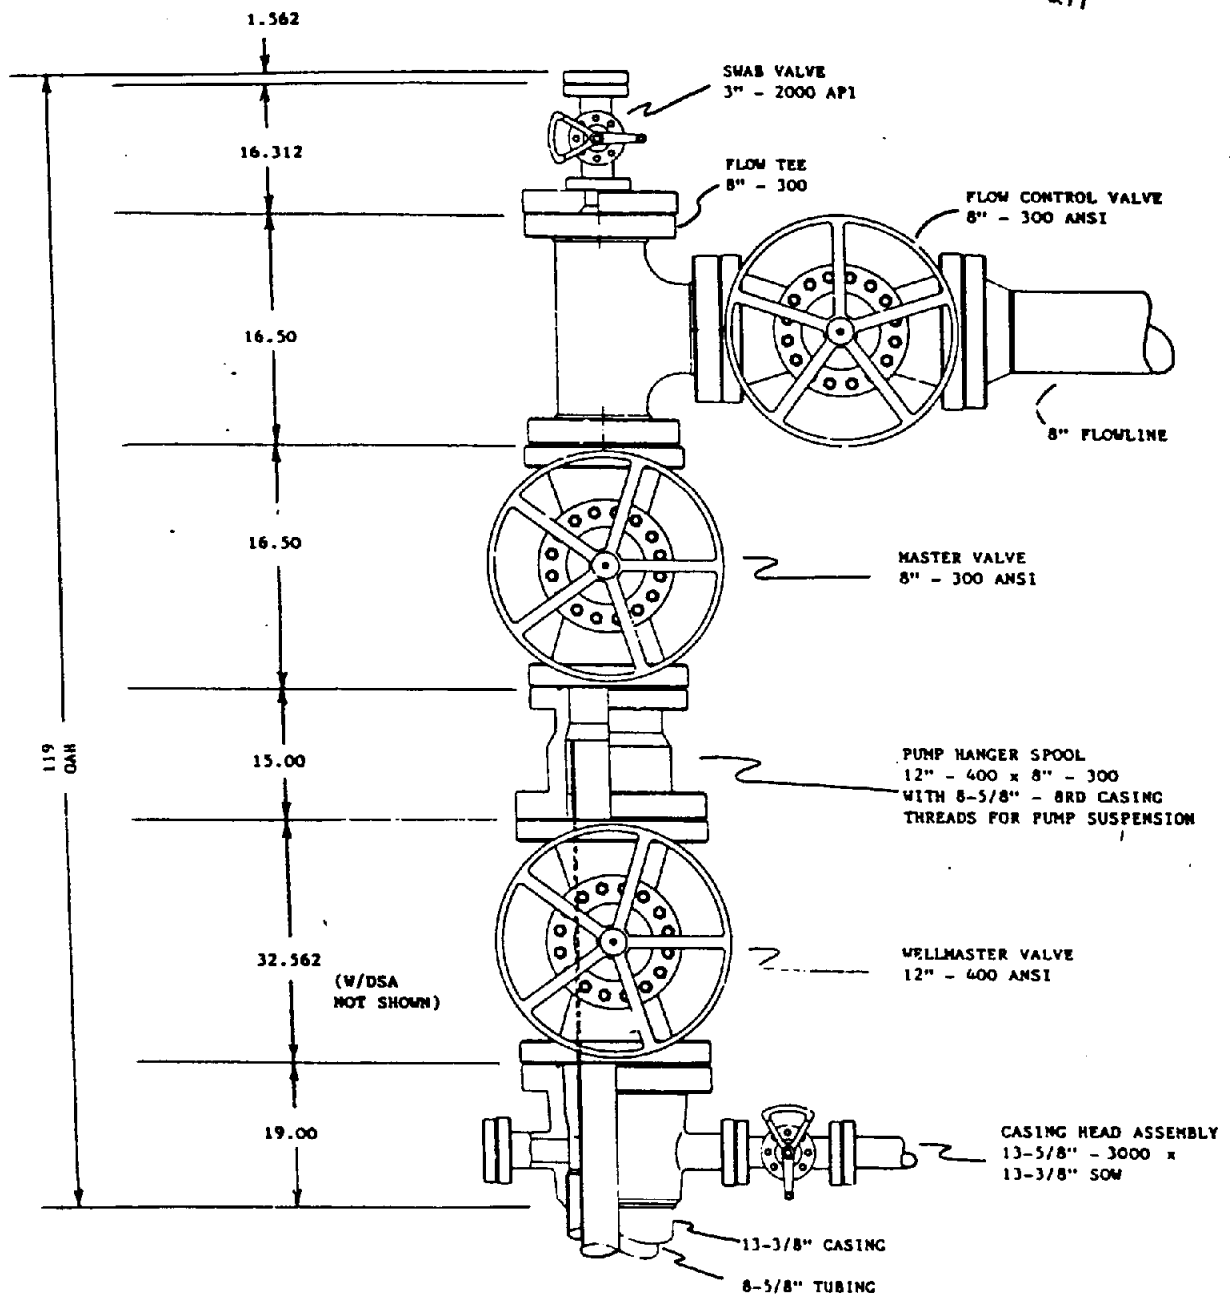

Figure 9. Wellhead Completion for Pumping Well
- b. Completion with a downhole pump. If the well will not flow, but the fluid level in the hole recovers, it may be possible to complete the well using a 6-3/4 in. downhole pump for geothermal service. The pump will be hung on 8-5/8 in. or smaller tubing, and will be capable of pumping approximately 650 gpm. The wellhead design for a pumping well is shown in Figure 9; specifications are given in Table 1. (An alternate pump with surface motor will be considered.)
16. Install pump hanger spool with electric cable port as shown in Figure 9.